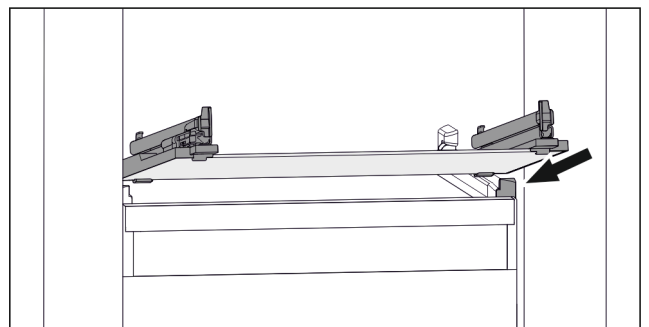

Fig. 110 Example illustration of glass shelf
- ▶ Position glass shelf at an angle behind the stoppers. (see Fig. 110)